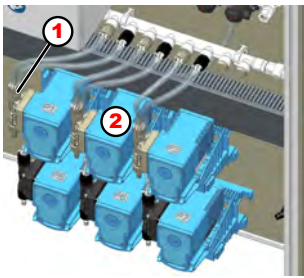

Fig. 5: Product assignments
1. ➤ Connect the tubing hoses to the corresponding hose nipples (Fig. 5, no. 1) of the pumps (Fig. 5, no. 2) using the hose clamps supplied.